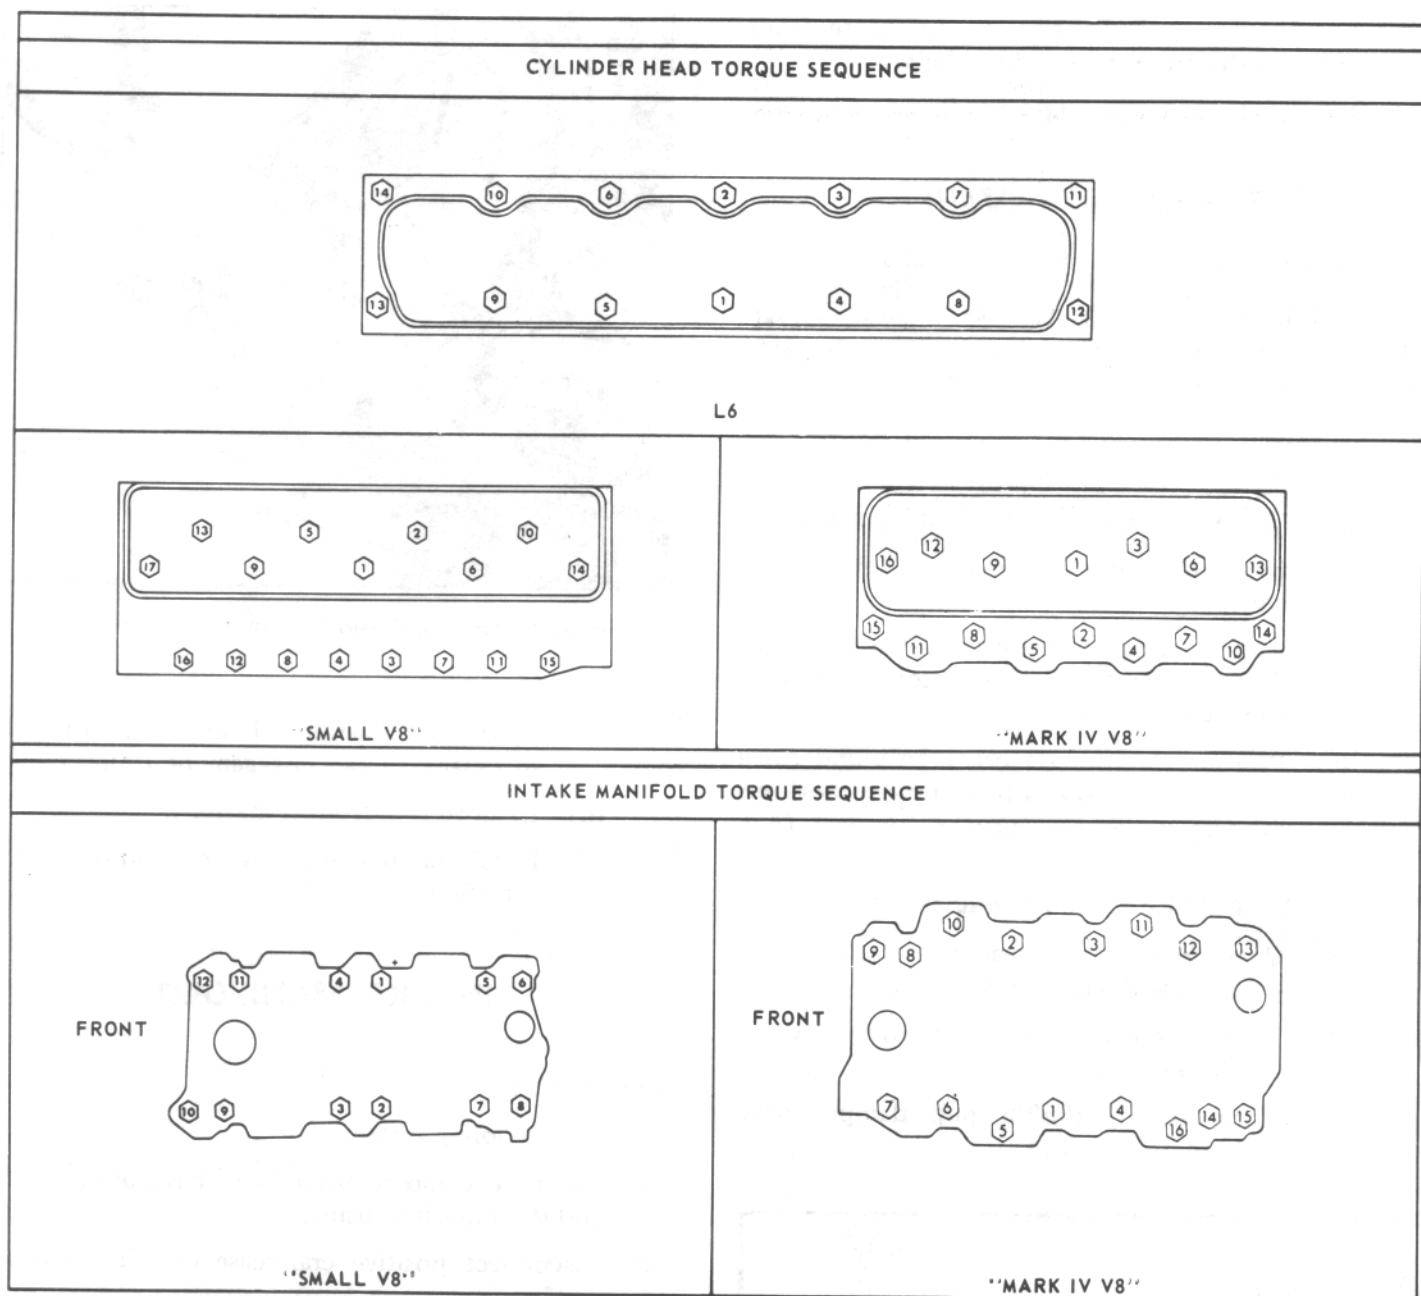

Fig. 126. Torque Specifications
3. Position new intake manifold gaskets on cylinder heads, carefully aligning holes in gaskets with holes in cylinder heads. Coat under side of front and rear seals with quick drying adhesive sealer and fit seals to cylinder block, aligning tabs in notches in gaskets. Apply bead of non-hardening sealer over four (4) junction points of seals and gaskets.
- Be sure intake manifold gaskets are properly aligned. Then install attaching bolts and nuts snugly to manifold. Torque bolts in sequence (Fig. 126) to specifications to compress gasket and seals. Then repeat sequence, torquing bolts and nuts to same specifications.